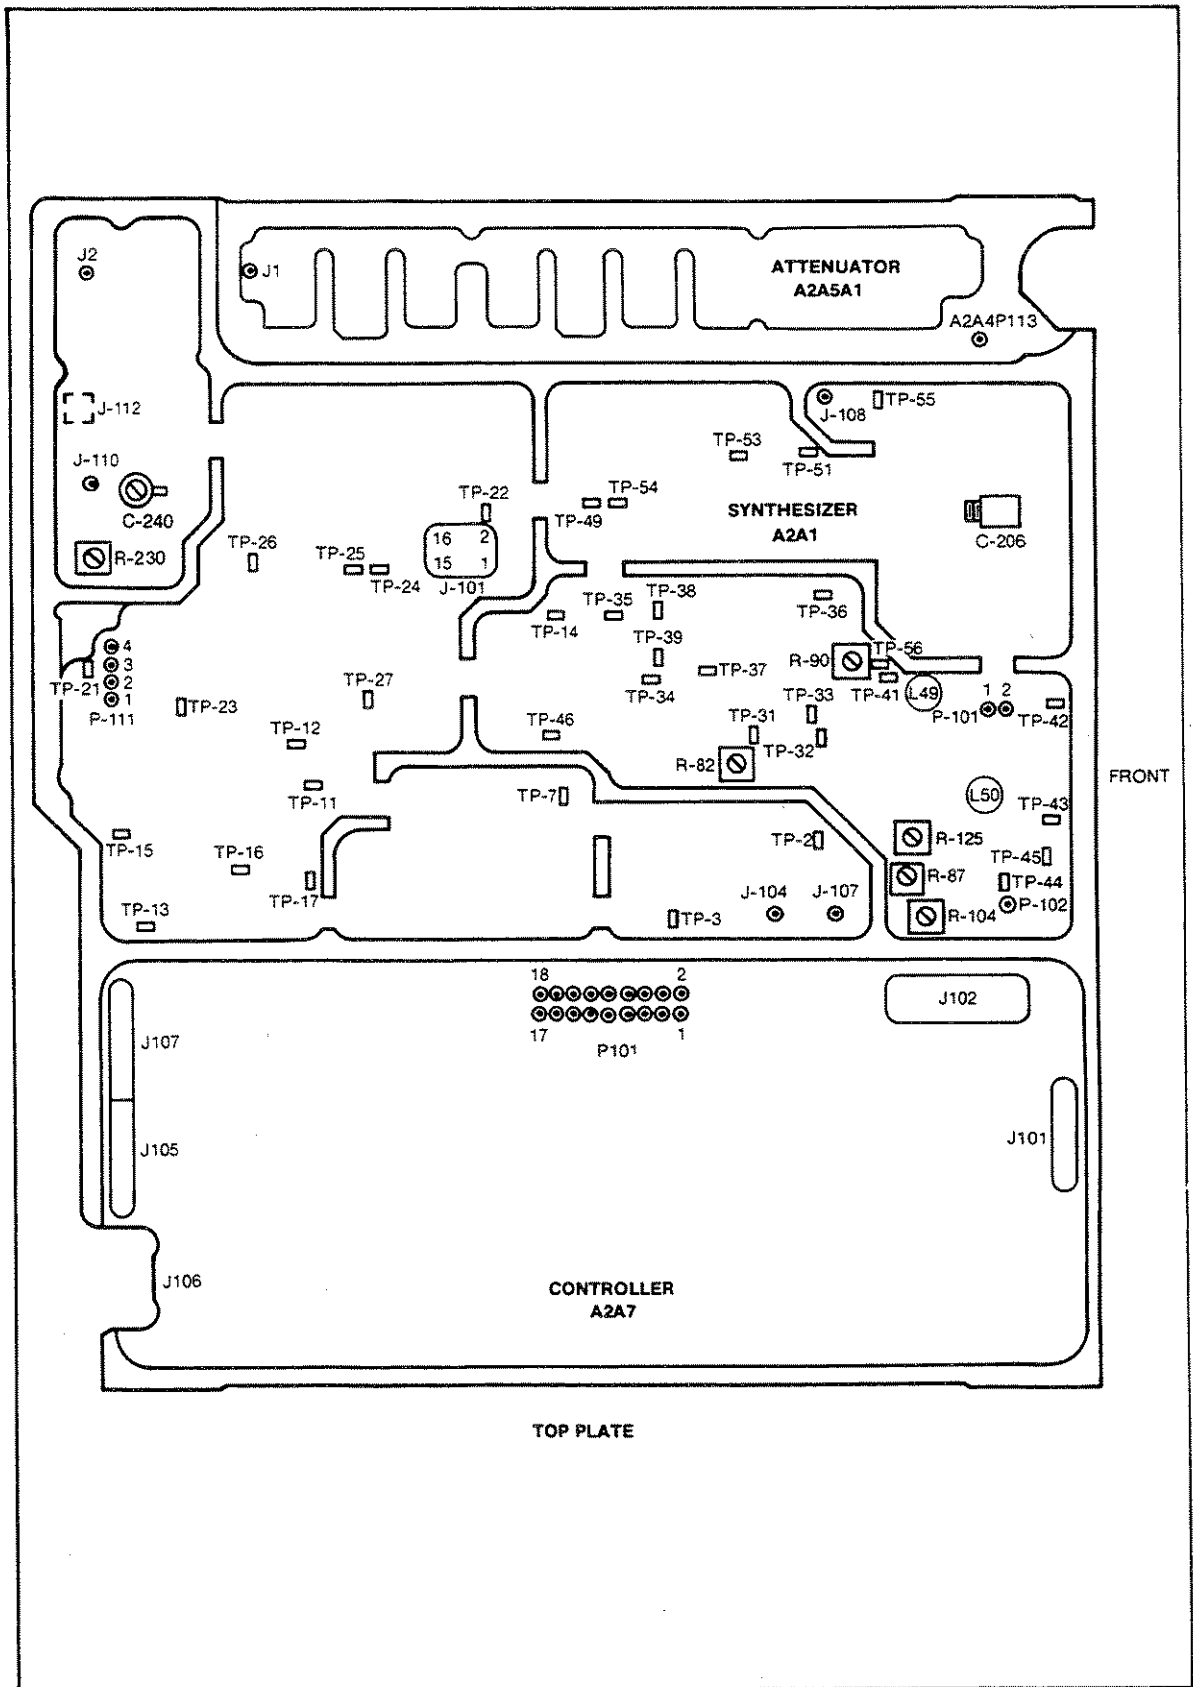

Figure 4C-3. Module Plate, Top View
Each of the following adjustment procedures is independent; that is, they can be done individually or in any sequence. Figure 4C-3 shows the top view of the module plate.
1. Remove the Generator top cover and the 10-MHz adjustment access screw from the the module plate. (See Figure 4C-3 C240 for 10-MHz adjustment location.)